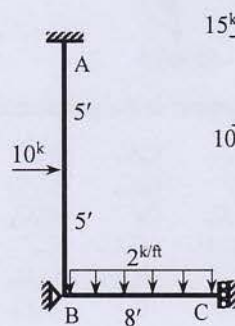

Fig.3
- Use stiffness method (neglect axial deformations) to calculate rotation of joint B and displacement of joint C of the frame ABC loaded as shown in Fig.3 (support C is a guided roller) [Given: $EI = 40 \times 10^3 \text{ k-ft}^2$].